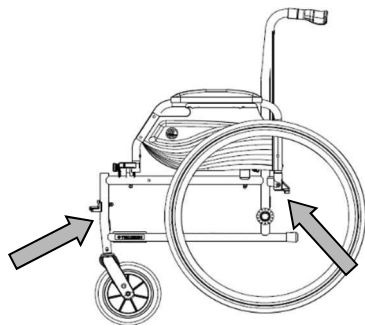

Figure 1
6. Mount the front securement straps according to the instructions of the strap-system manufacturer at the indicated place. (figure 1)
9. Mount the back securement straps according to the instructions of the strap-system manufacturer at the indicated place. (figure 1)